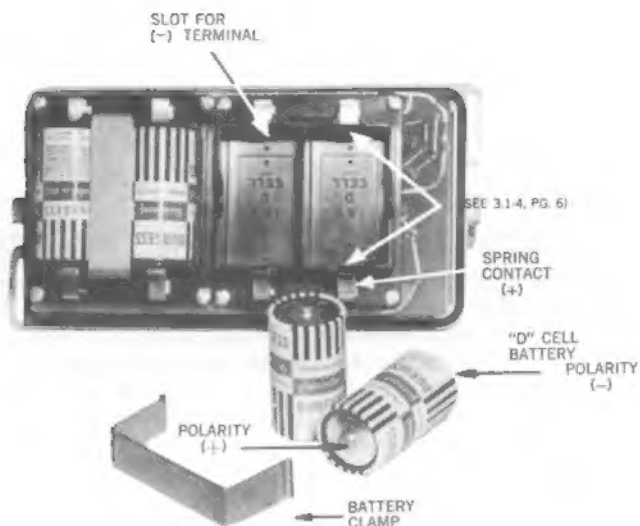

Fig. 3 — V-700 Showing Battery Section
- pressing against each battery. This may be adjusted with long nosed pliers if necessary. (See Fig. 3)